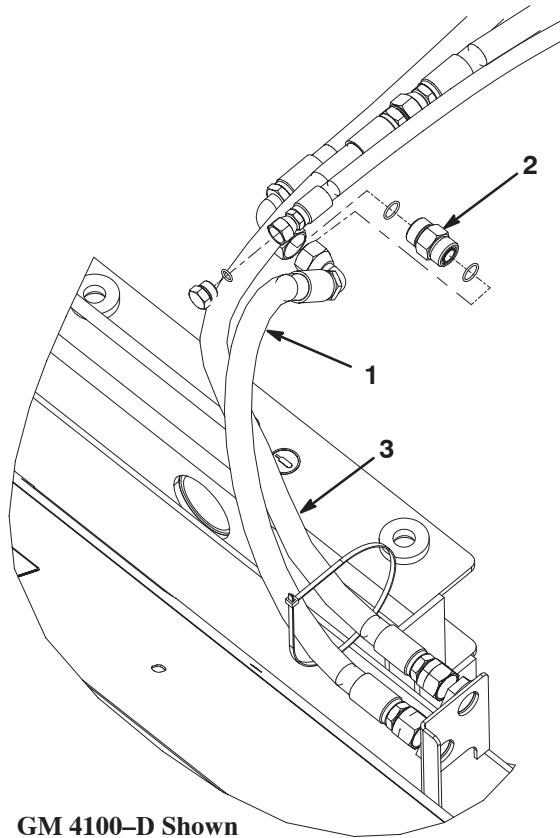

Figure 12
9. Connect the (2) extension hoses (Fig. 12) to the large traction unit hoses as follows:
10. Route and connect the extension hoses (Fig. 12 & 14) to the brush bulkhead fittings as follows: